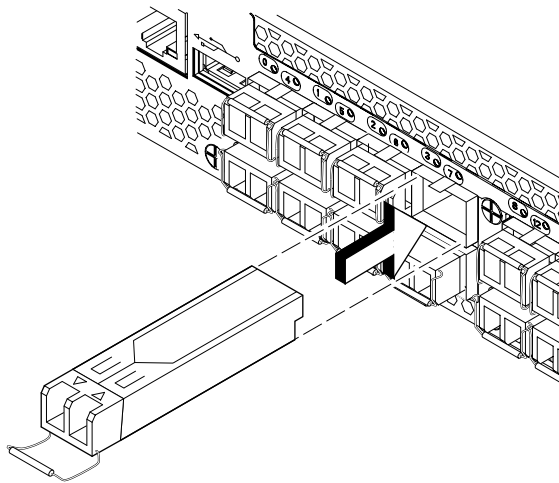

FIGURE 4 Installing an SFP in the upper row of port slot
1. Making sure that the bail (wire handle) is in the unlocked position, place the SFP in the correctly oriented position on the port as shown in Figure 4.
Each SFP has a 10-pad gold-plated PCB-edge connector on the bottom. The correct position to insert an SFP into the upper row of ports is with the gold edge down. The correct position to insert an SFP into the lower row of ports is with the gold edge up. Figure 4 shows the correct orientation for installing an SFP in an upper row port slot.